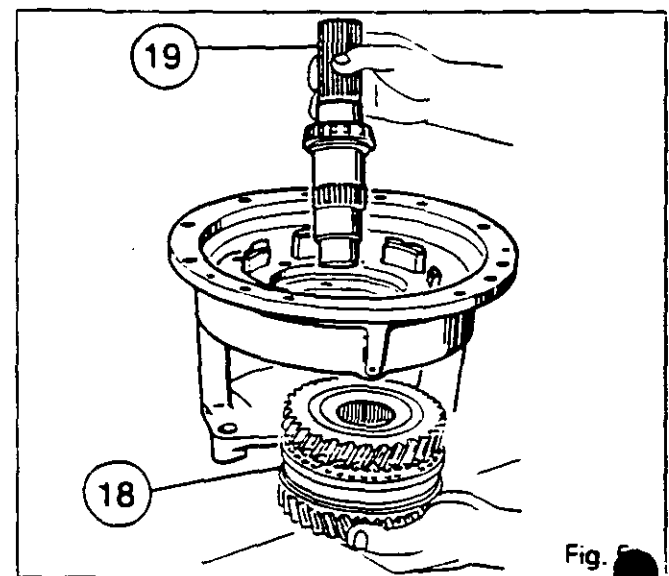

Fig. 5
22. Remove the screws (10). Take out pin (13). Remove the compound gear, the washers (12), (17), the needle roller bearings (14) (16) and the spacer (11).
23. Remove the bolts (36). Remove the retaining plate (25), the shims [1] and the cup (37).
24. Take out the secondary shaft (19) (Fig. 5).
25. Remove gear/synchro assembly (18) (Fig. 5) and the washer /8\.
26. Remove the cone (9) and the cup (38).
27. On the gears/synchro assembly, separate: the gear (5), the bush /7\, the needle roller bearing (6), the cone (4), the ring (3), the synchromesh (2), the ring (21), the cone (22), the gear (23), the needle roller bearing (20).
28. If necessary, take out the cone (24) from the shaft and remove the washer /35\.